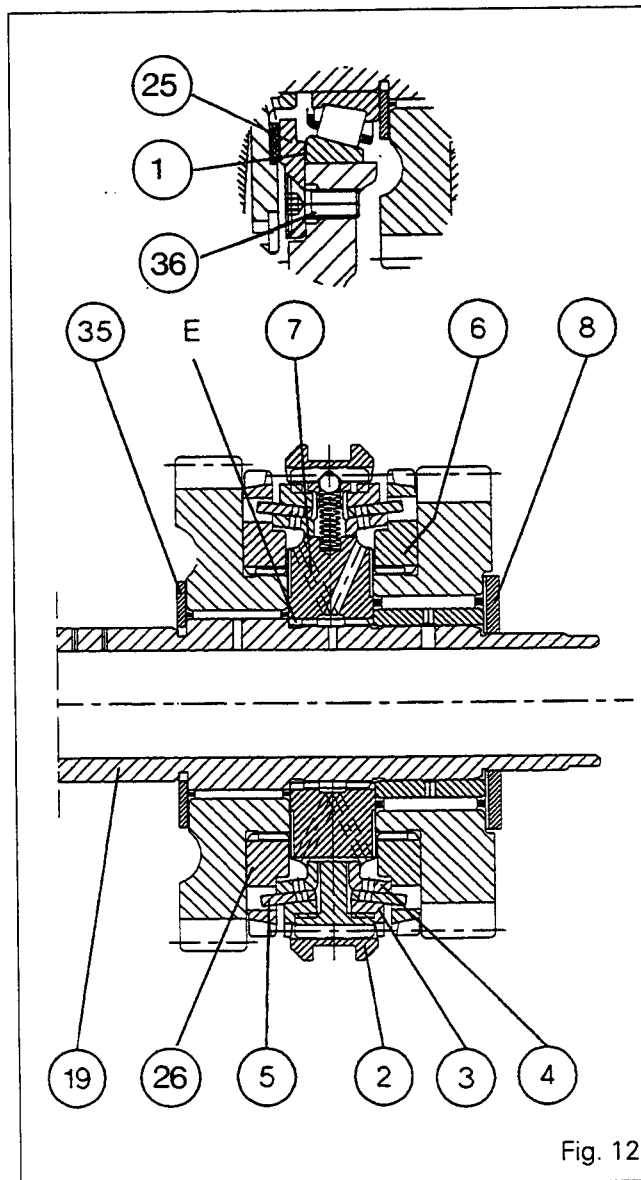
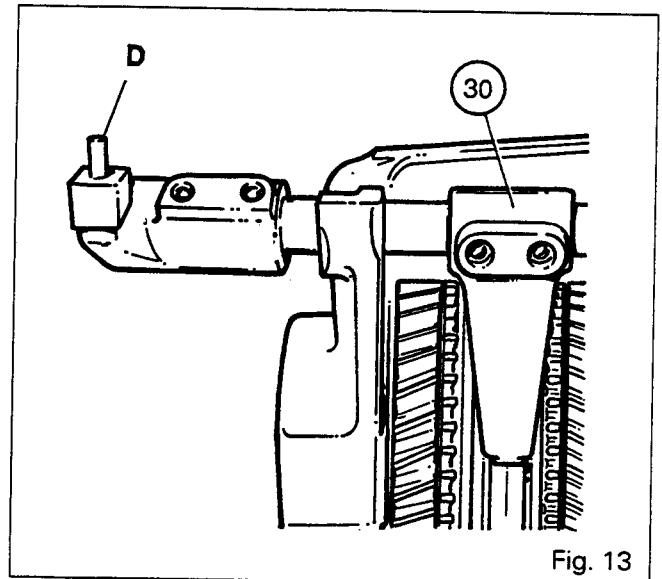

Fig. 12
Fig. 13
### List of parts (Fig. 12)
- 70. Remove the reverse shuttle (Fig. 12).
- The shimming procedure for the shaft (19) (Fig. 12), the adjustment of the fork (30) (Fig. 13) and tightening torques are unchanged.
**Adjusting the reverse selector (Fig. 13).**
72. Position the selector (33) to neutral. Fit tool 3378054M1 (See Part F) and tighten with bolts «V». Coat the screws (34) with Loctite 221. Bring face «F» of the selector into contact with the tool by means of screws (34).
**Note: The principle for adjusting the screws (34) is identical to that for the version with mechanically operated reverse shuttle.**
The finger «D» on the selector (Fig. 13) moves a link connected to the position sensor fitted on the selector cover (See Section 5C02).